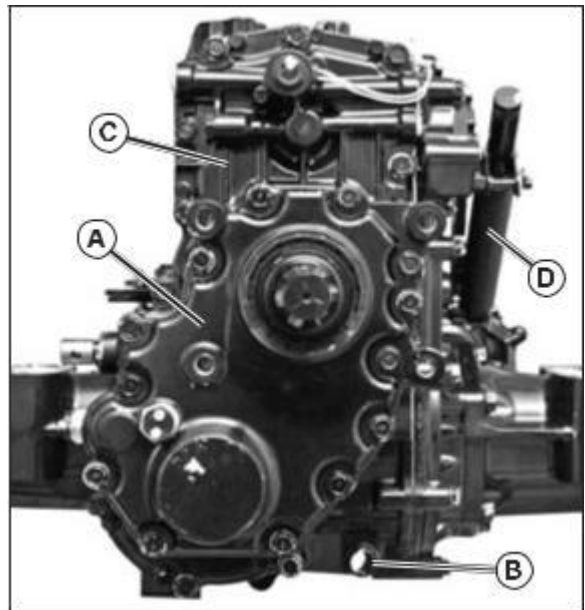

Fig. 18, Transaxle Cover
1. Remove plug (B) to drain oil from transaxle. (Fig. 18)
2. Remove optional rear PTO (A), if installed. (See "Rear PTO Removal and Installation" on page 14.) (Fig. 18)
3. Remove rear transaxle cover (C). (Fig. 18)